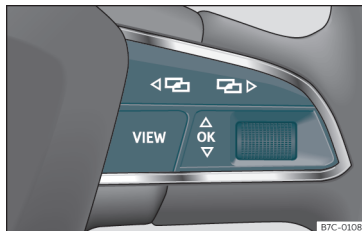

Fig. 105 Right side of multifunction steering wheel: buttons to the menus and informative indications on the instrument panel.
As long as a priority 1 >>> page 102 warning is active, it will not be possible to access any menu. Some warnings can be confirmed and hidden with the button **OK** of the multifunction steering wheel >>> **Fig. 105**.
- If a message or vehicle symbol is displayed, press the button **OK** >>> **Fig. 105**; if necessary, several times.
- To change menus, use buttons  or  >>> **Fig. 105**.
- To open the menu or the information displayed, press the button **OK** >>> **Fig. 105** or wait a few seconds until the menu or the informative display opens automatically.
- In the menu displayed, turn the right thumbwheel of the multifunction steering wheel >>> **Fig. 105** until the desired option of the menu is highlighted. The option appears framed.
- Press the button **OK** >>> **Fig. 105** to make the required modifications. A mark indicates that the system or function is activated.
Press the button  or  >>> **Fig. 105**.